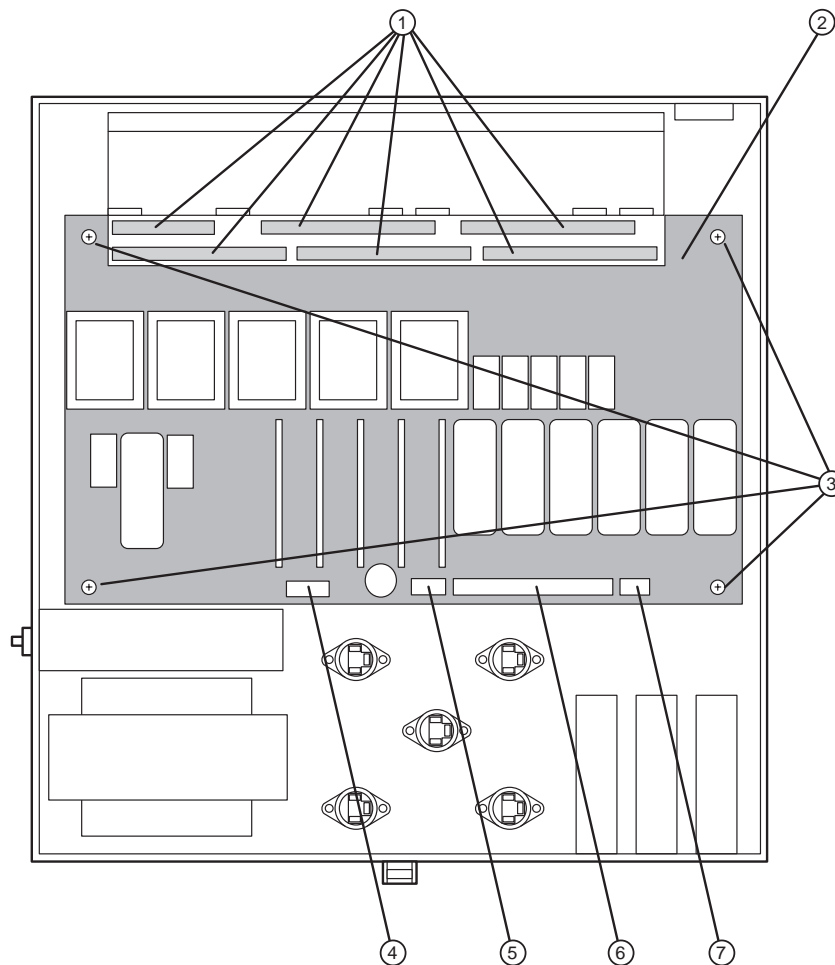

Figure 3-10 Power board.
Refer to Figure 3-10. Note the wire colors for proper replacement.
①—Terminal strips. ②—Power board. ③—Mounting screws.
④—X3 connector. ⑤—X7 connector. ⑥—X1 connector. ⑦—X2 connector.
4. Using a small flathead screwdriver, remove the high voltage connectors from the terminal blocks. Refer to Figure 3-10.
5. Using a phillips screwdriver, remove the four (4) mounting screws, one at each corner. Refer to Figure 3-10. Remove the board.